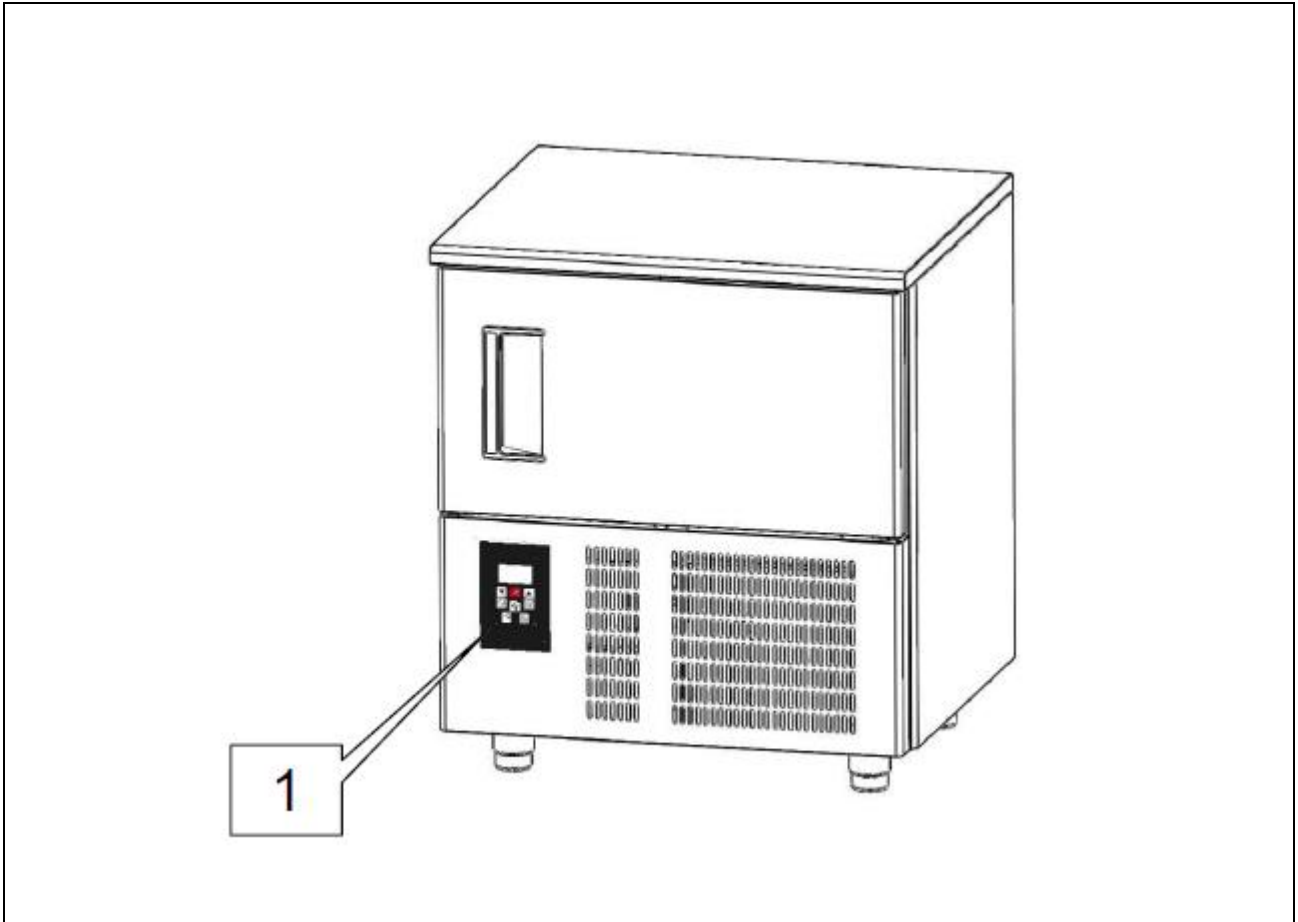

Fig. 6
The entire appliance is controlled by an electronic circuit board. The stop function is represented by the  button (ref. 1 fig. 6). Whatever condition the machine is in, holding down the  button for 3 seconds cuts out the circuit board.